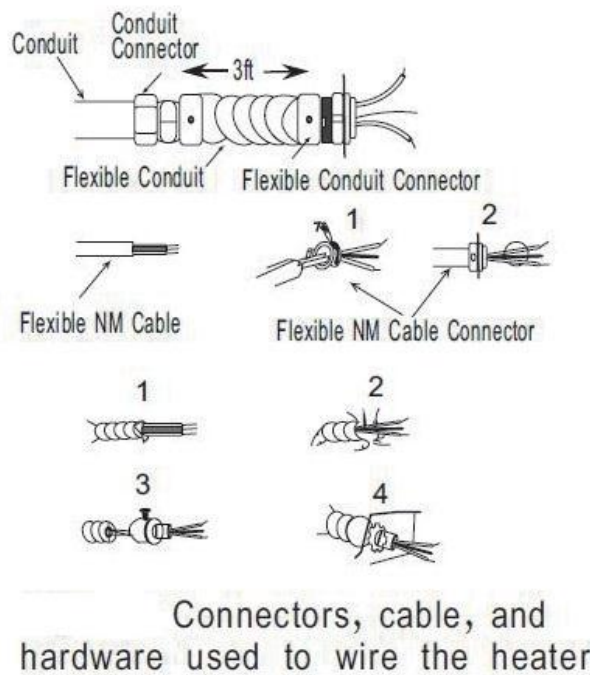

Figure 12
2. Attach the cable connectors to the unit (See Figure 12) and slide the 8-gauge wire through the cable connector.